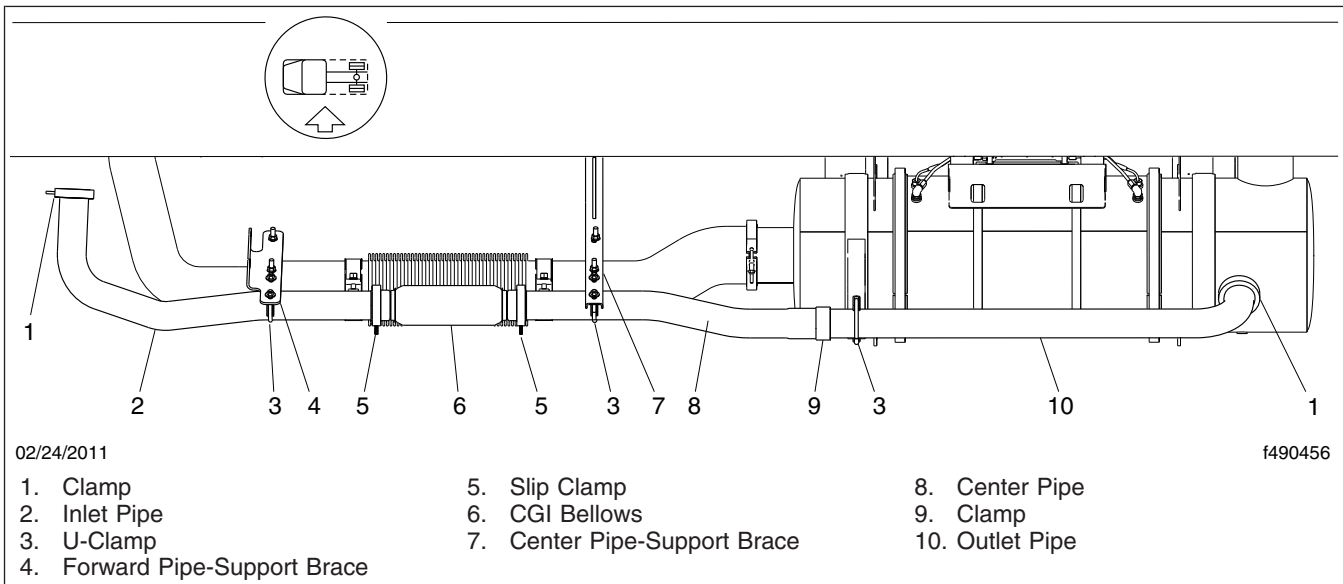

Fig. 5, CAT EPA07 Exhaust Installation with CGI Bellows
- On vehicles with CAT engines, inspect the CGI bellows and piping for evidence of damage or leakage. See Fig. 5. If the bellows is damaged or leaking, replace it. See 49-02 for the replacement procedure.
See Fig. 5.